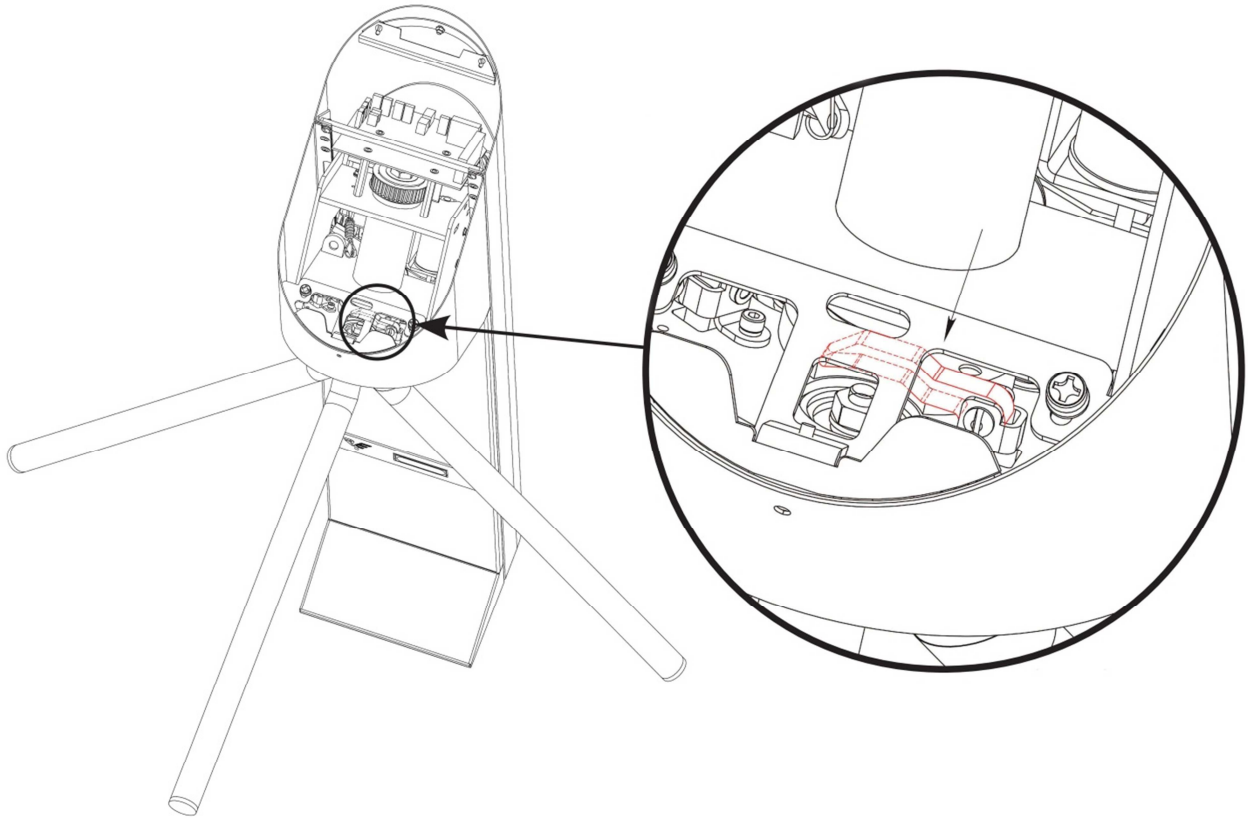
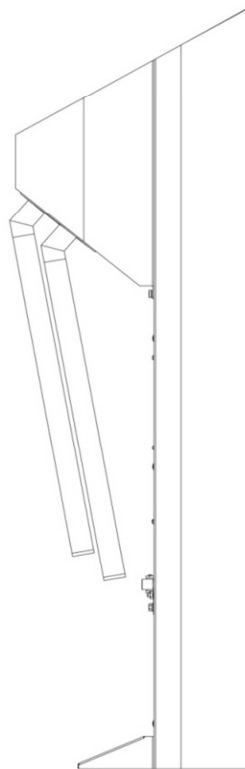

Fig. 5 Central stand of turnstile
Fig. 6 Central stand of turnstile
3.4. Next step is to fold the arms. In order to do it press gently on the arms fixing cam in the direction shown in Fig. 5. Arm shall be rotating freely about the short axis. Fold the second arm in the same manner by turning the disc. The result is shown in Fig. 6.